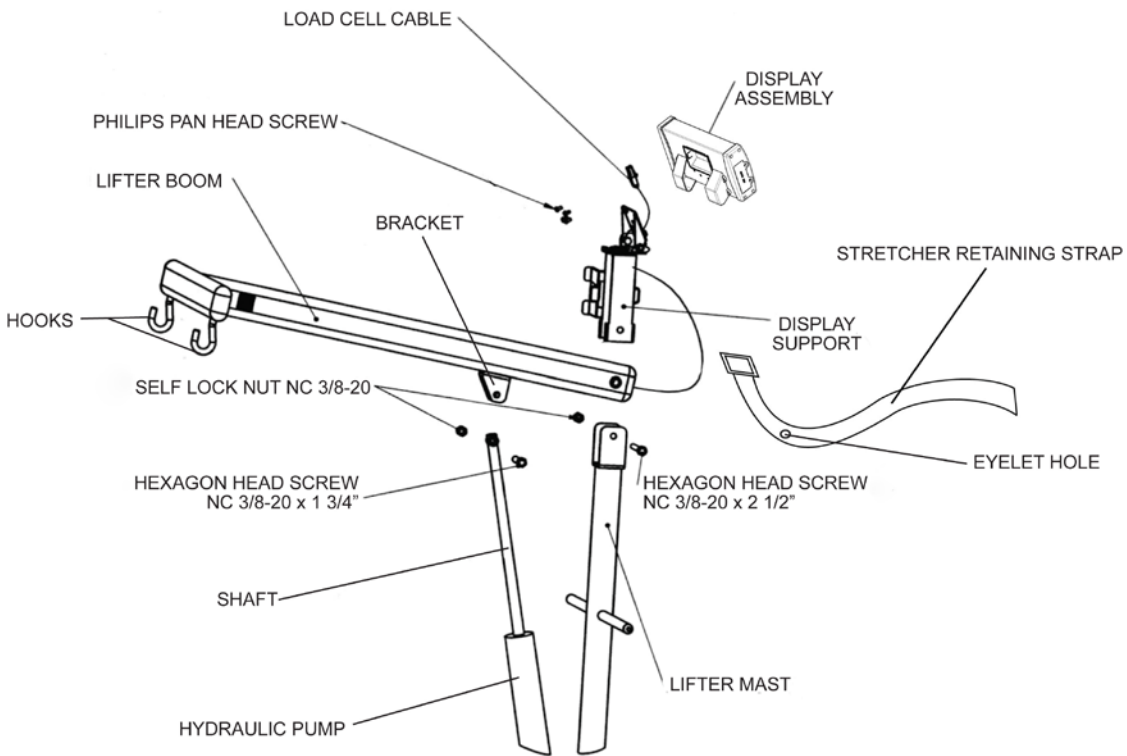

Figure 4
10. Insert the hexagon head screw through the stretcher retaining strap eyelet hole. The screw can be inserted through either side of the strap (see Figure 4).
12. Using the same hexagon head screw, assemble the lifter boom and the display support to the lifter mast. Thread the screw through all three parts, and secure the screw with the self lock nut (see Figure 4).
14. Insert the end of the hydraulic pump shaft into the lifter boom’s bracket, and align the assembly holes (see Figure 4).
15. Thread the hexagon head screw through the lifter boom bracket and the hydraulic pump shaft hole. Secure the screw with the self lock nut (see Figure 4).